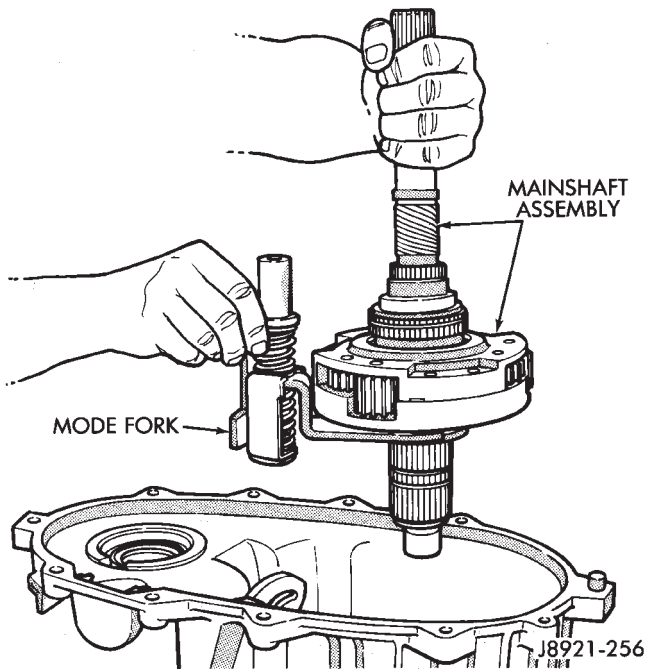

Fig. 69 Installing Mainshaft And Mode Fork
(41) Install mode fork and mainshaft assembly in case (Fig. 69). Rotate mainshaft slightly to engage shaft with low range gears.